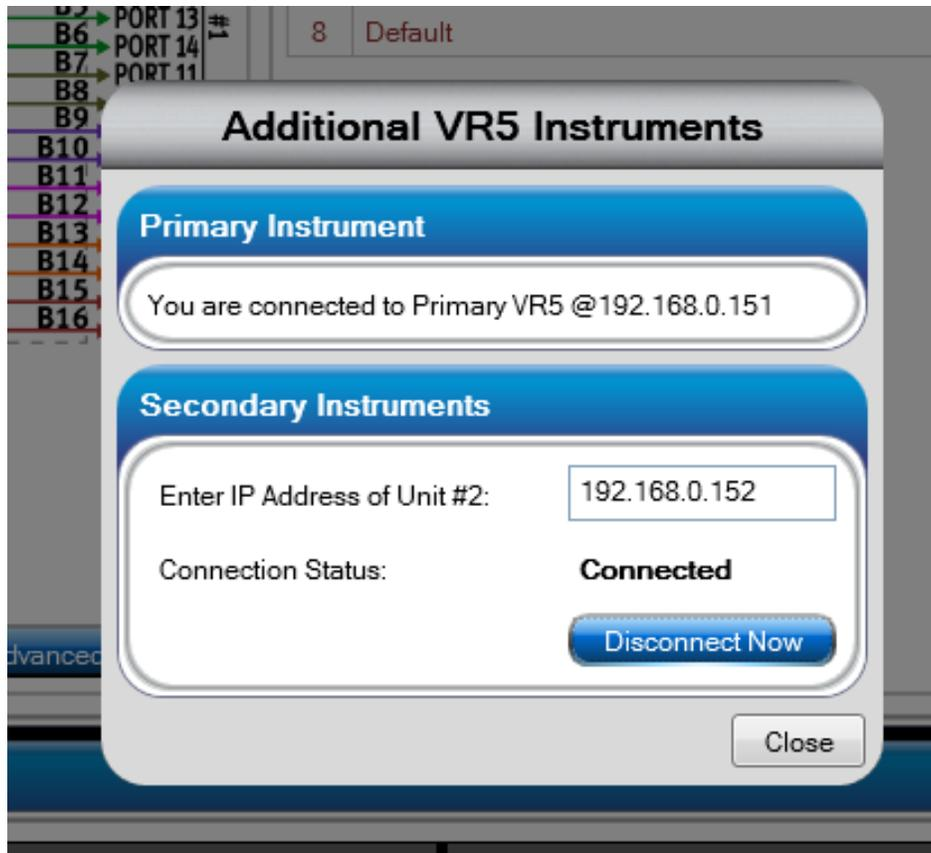

Figure 3-13: Additional VR5 Instruments
8. When the connection is successfully completed, the *Additional VR5 Instruments* window displays, as shown in Figure 3-13.